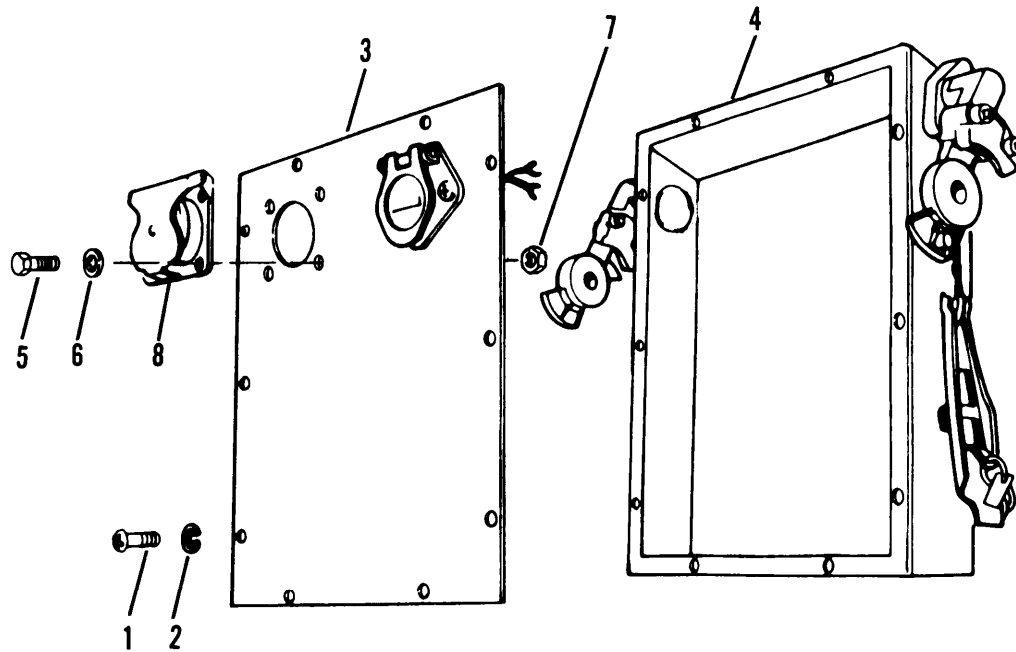

Figure 4-3. 24 Volt Receptacle
(1) Remove ten screws (1, fig. 4-3) and ten washers (2).
(2) Ease the nose box cover (3) away from the nose box (4).
- (3) Tag and disconnect six wires from terminal boards and white ground wire from nose box cover (3).
- (4) Remove four bolts (5), washers (6) and nuts (7) that secure 24 volt receptacle (8) to cover (3).
- (5) Withdraw receptacle (8).
- (1) Install receptacle (8, fig. 4-3).
- (2) Secure receptacle (8) with four bolts (5), washers (6) and nuts (7).
- (3) Connect six wires to terminal boards and white ground wire to nose box cover (3).